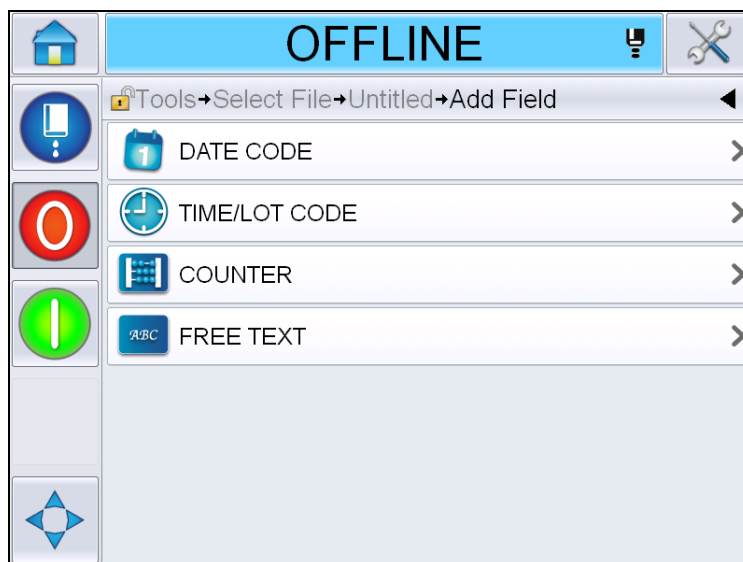

Figure 5-24: Add Field Page
- 3 Touch . Displays the Add Field Page (Figure 5-24 on page 5-30).